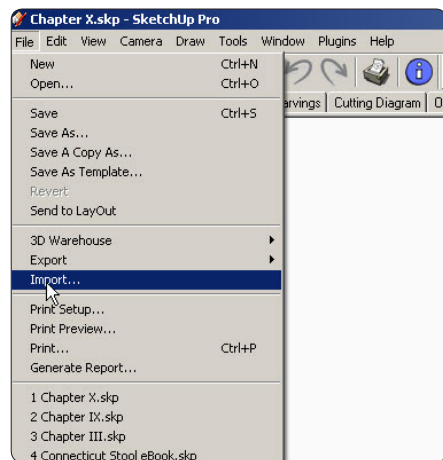
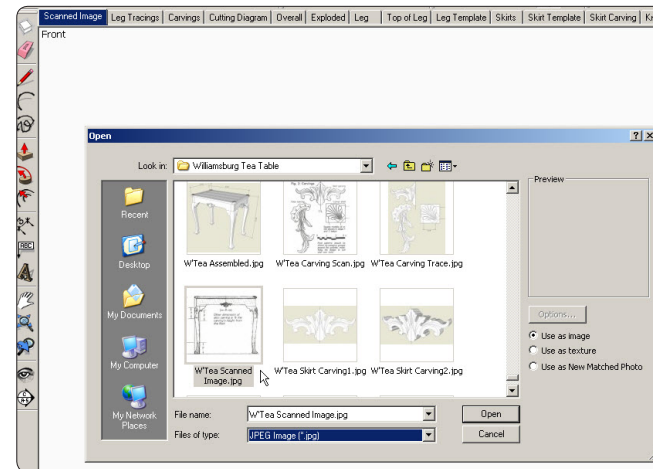

Figure 1. The first step to importing an image.
Figure 2. Use the dialog box to find the scanned image you want.
Step 1 Click on File in the Menu Bar, then choose Import from the pop-up menu, as shown in Figure 1. That will open the dialog box shown in Figure 2. (The box looks different on the Mac, but it works the same.) In the top window, labeled "Look in," tell SketchUp what file